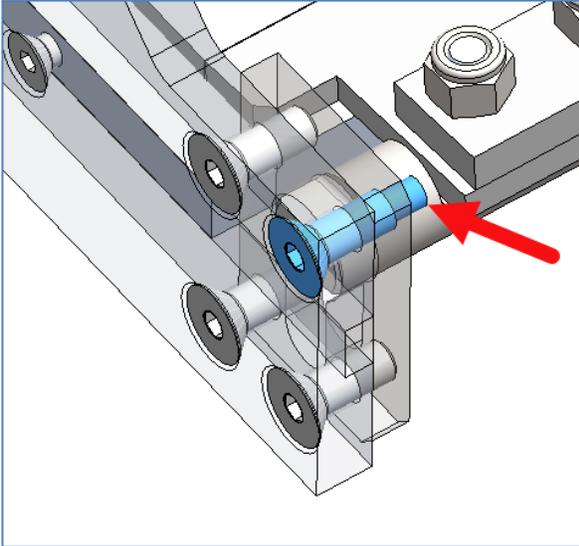
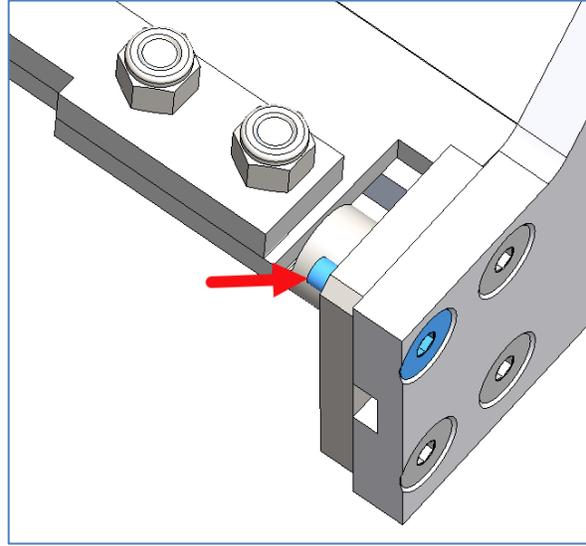

Figure 11
Figure 12
- 8) Add LOCTITE blue to cover 2 to 3 threads on part RI67203. Then install and fasten RI67203 on both sides of the front platform. See Figure 11 & Figure 12.